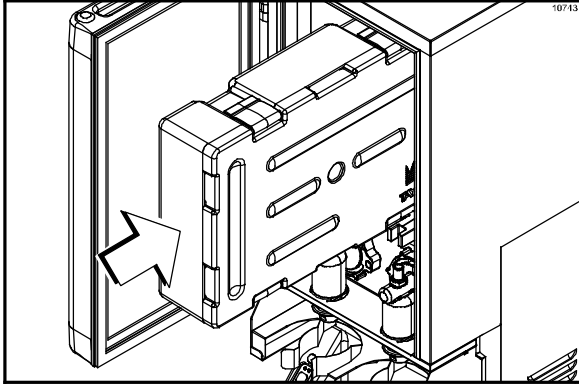

Figure 26
2. Place the new concentrate container in the dispenser. (See Figure 26.)